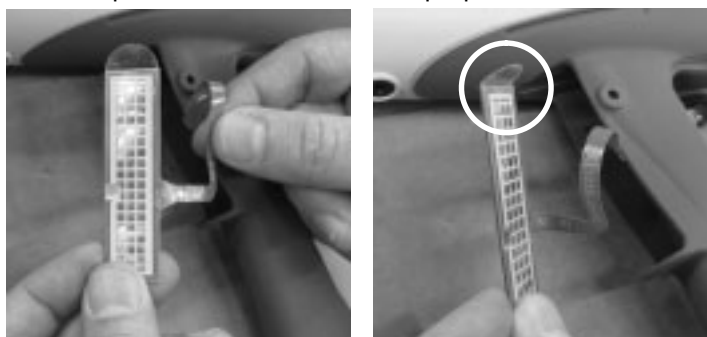

Figure 6-10 Installing the Trigger Switch – Step 3
3. See Figure 6-10. Straighten the ribbon cable, then bend the pull tab at the top of the switch so that it is perpendicular to the switch.